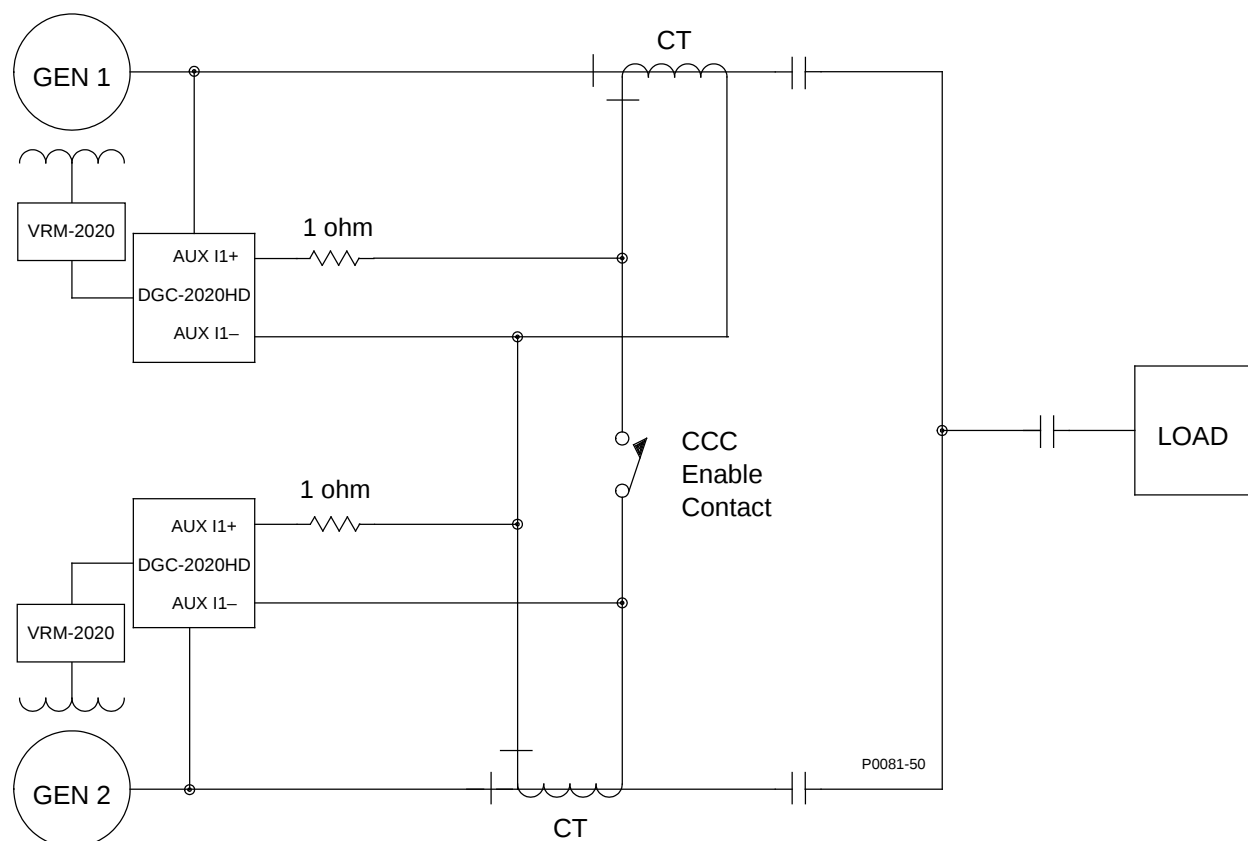

Figure 35. Connections for Cross-Current Compensation
Cross-current compensation (reactive differential) mode allows two or more paralleled generators to share a common reactive load. As shown in Figure 35, each generator is regulated by a VRM-2020. The DGC-2020HD uses an auxiliary CT input (terminals AUX I1+ and AUX I1-) and a dedicated, external current transformer (CT) to sense generator current. The DGC-2020HD passes the current sensing information to the VRM-2020 via CAN communication. The resistors shown in Figure 35 are used to set the burden and may be adjusted to suit the application. Ensure that the power rating of the resistors is adequate for the application. The auxiliary CT input terminals shown in Figure 35 are for auxiliary CT input #1, but any of the four auxiliary CT inputs can be configured for cross-current compensation.